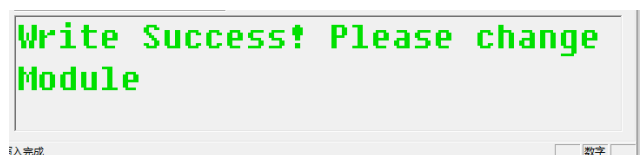

Figure 37
4.7 Wait until the prompt "Write Success" is displayed, indicating that the programming of the module is complete (as shown in Figure 37)